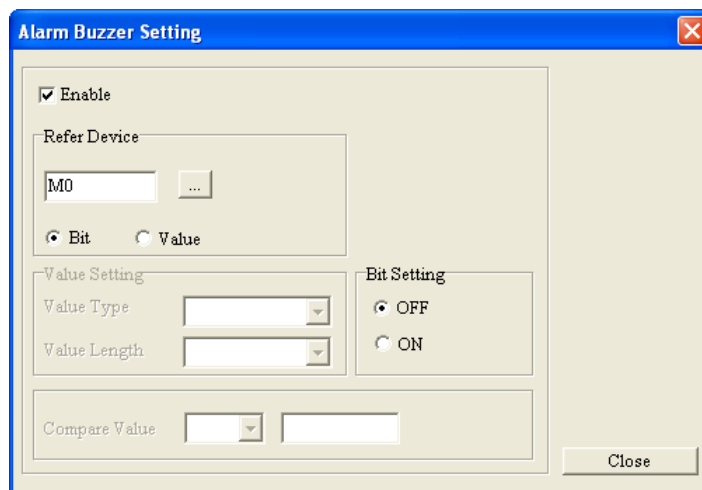

Figure 5-6 Alarm Buzzer Setting window
**Setting** menu, or right-click a page and then click **Alarm Buzzer Setting** on the context menu which appears, the **Alarm Buzzer Setting** window will appear, as shown in Figure 5-6. After the users select the **Enable** checkbox, they can set an alarm buzzer. The function can be used only when the **Enable Buzzer Setting** checkbox in the **Basic Configuration** window is selected. Please refer to section 3.6.1 for more information.